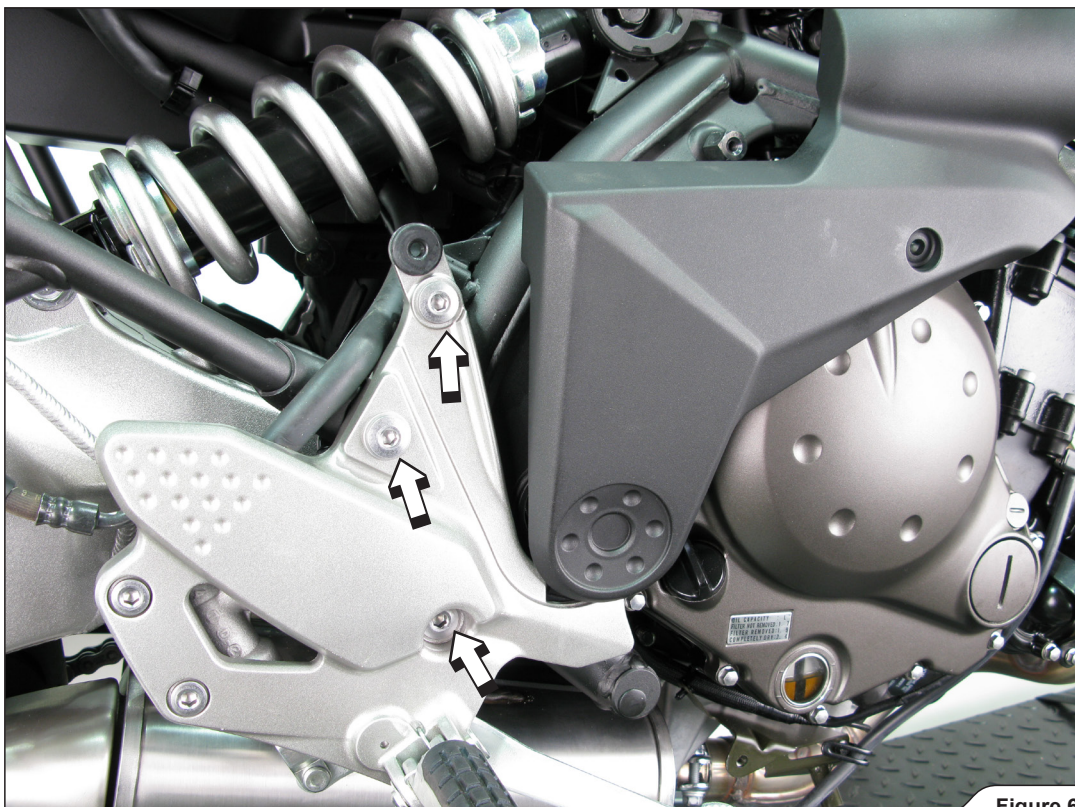
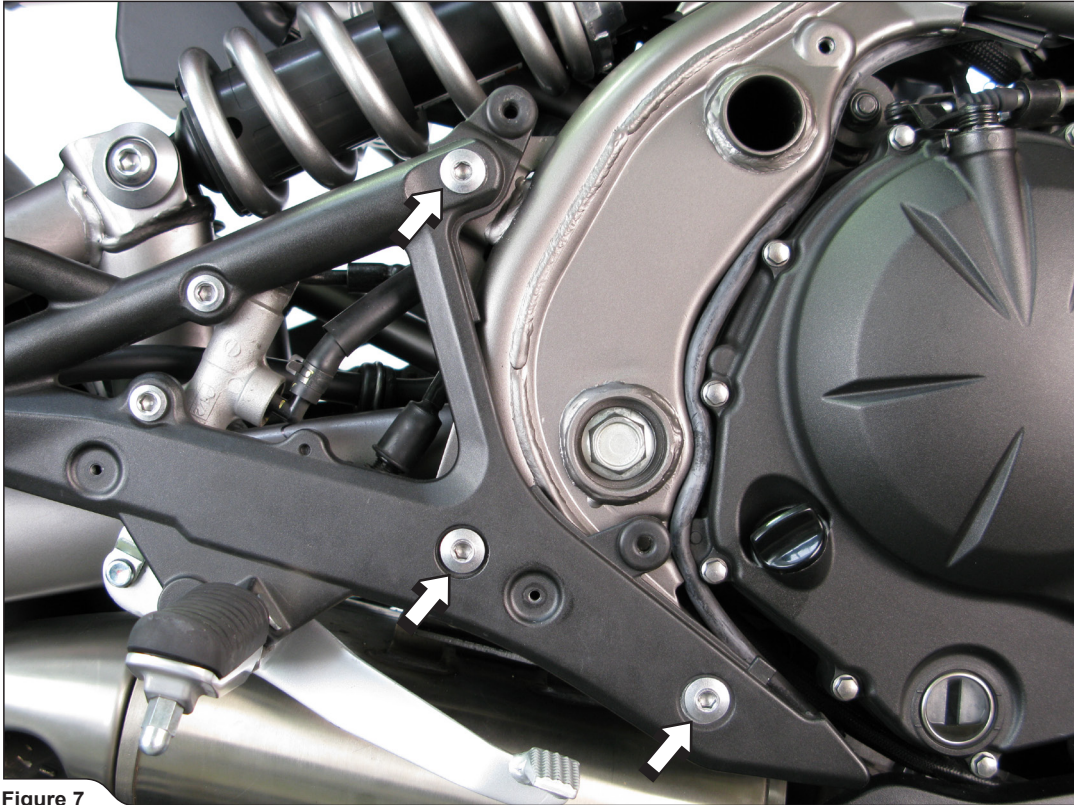

Figure 6
Figure 7
6. For ER-6 Versys: Unscrew the marked bolts from the rider's footrest bracket and remove the bracket (Figure 6). For ER-6: Unscrew the marked bolts from the rider's and passenger's footrest bracket and remove the bracket (Figure 7).